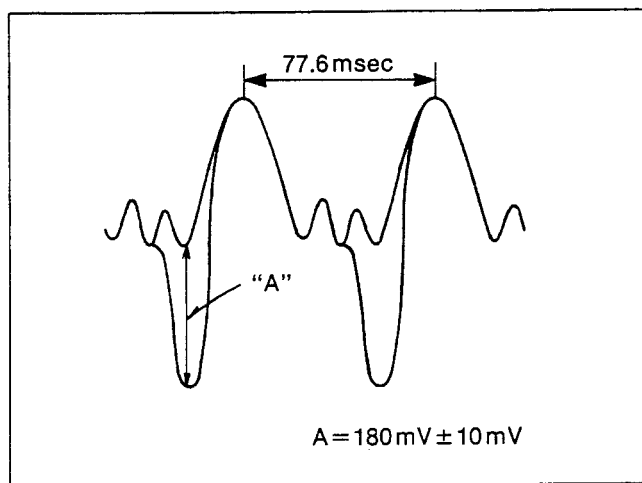

Fig. C9
- (1) Aim the camera at J-Chart.
- (2) Adjust the VR327 (ALC control) so that the voltage at TP515 becomes 280mV $\pm$ 10mV.
- (3) Adjust the VR202 (CCD output control) so that the level "A" of TP201 becomes 180mV $\pm$ 10mV as shown in Fig. C9.